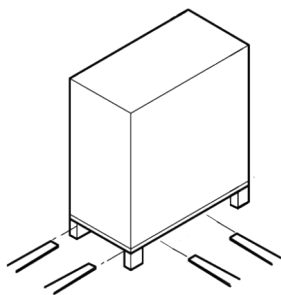
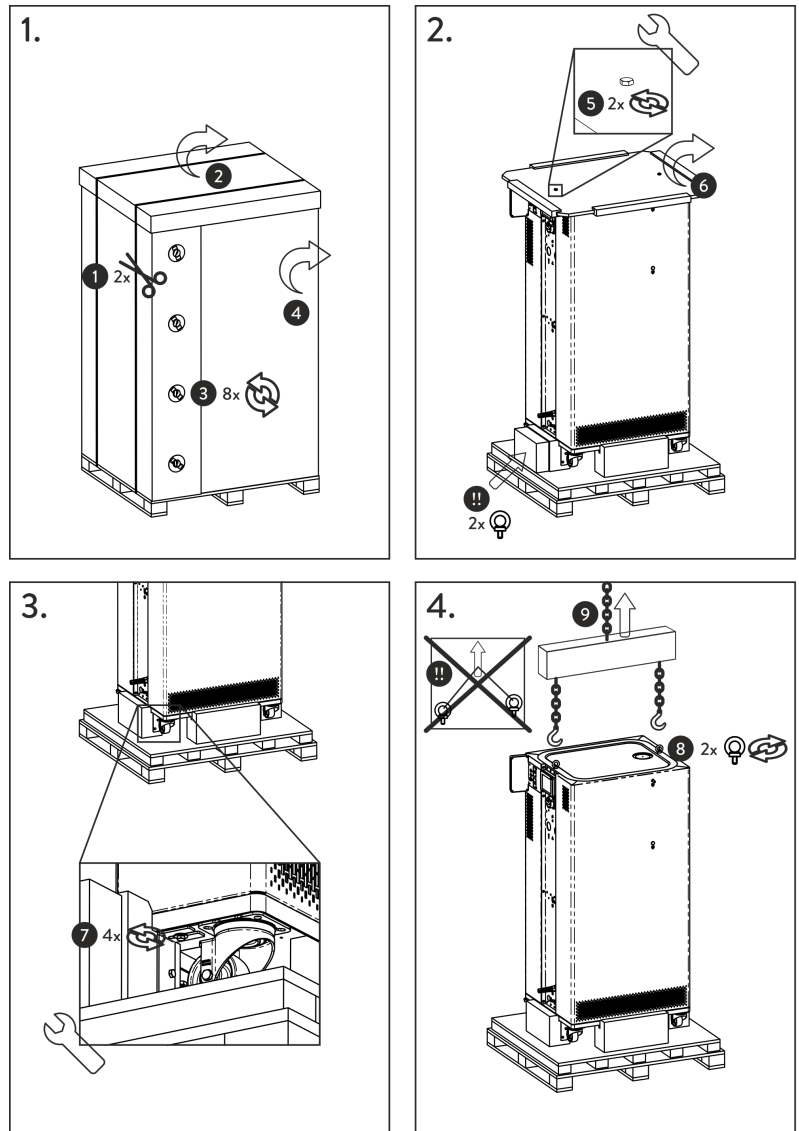

Fig. 1: Transport with forklift truck
Fig. 2: Unpacking instructions
1. **Fig. 1:** Cut and remove the strapping ①.
2. Lift the cover of the cardboard box ② and remove it.
3. Unscrew the bayonet locks ③ from the box. Turn them counterclockwise to perform this task.
4. Remove the box ④.
5. **Fig. 2:** Unscrew the screws ⑤ from the wooden cover. Turn them counterclockwise to perform this task. Remove the wooden cover ⑥.
7. Fig. 2: Remove the ring bolts from the packaging.